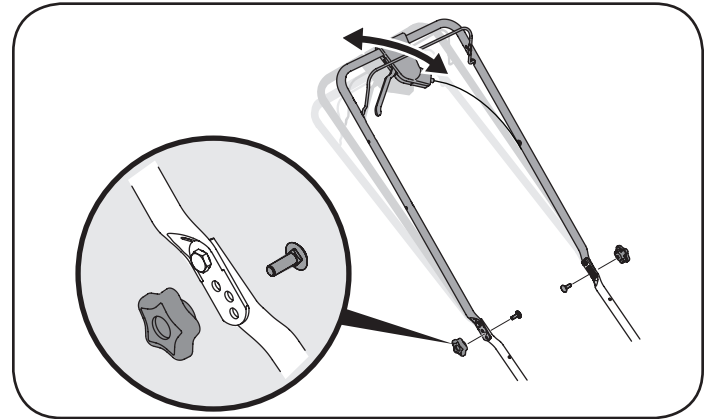

Figure 13
3. Remove wing nuts and carriage bolts from handle. See Figure 13.
4. Position the handle in one of the three positions that is most comfortable. See Figure 13 inset.